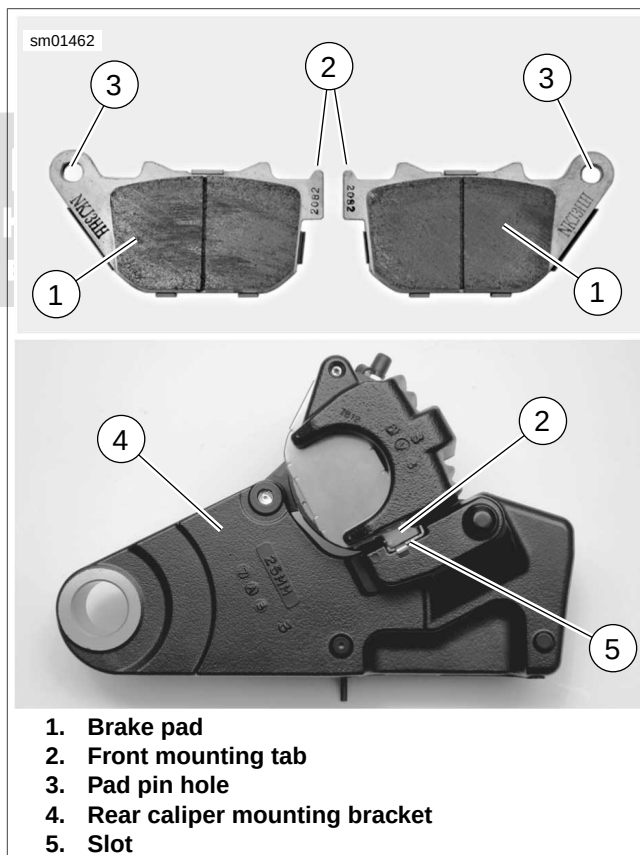

Figure 2-132. Installing Rear Brake Pads
5. See Figure 2-132. Insert brake pads (1) into caliper with friction material on pad facing brake disc. Curved portion of pad fits into recessed area of caliper. Make sure brake pad front mounting tab (2) fits into slot (5) in caliper mounting bracket (4).
- See Figure 2-132. Pad front mounting tabs (2) must be fully seated in mounting bracket slot (5).